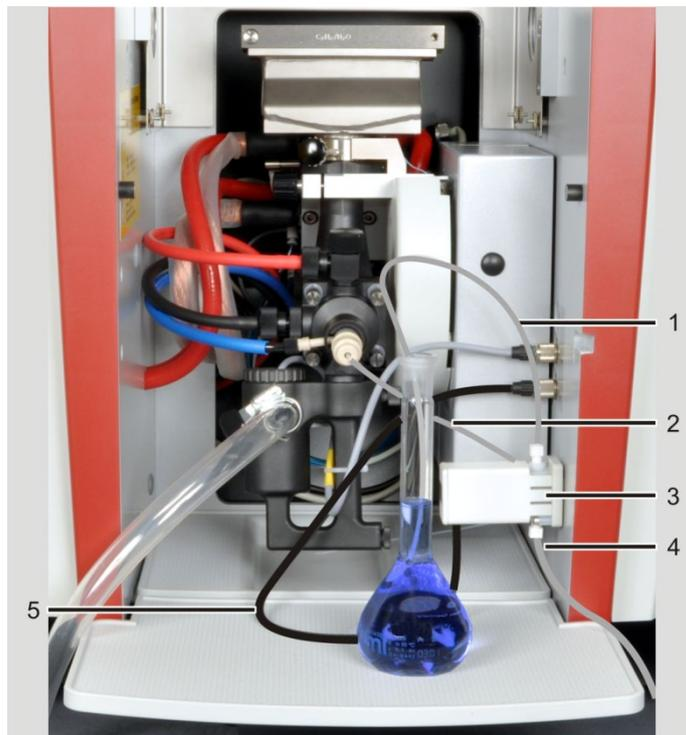

Fig. 46 Installing the SFS 6 for manual sample supply
- medium length hose in the top connection – to the sample (1 in Fig. 46)
- short hose in the side connection – to the nebulizer cannula (2)
- long hose in the bottom connection – to the wash solution (4)
3. Plug the control cable (5 in Fig. 46) into the two pin socket in the sample chamber wall.
4. Plug the short tube (2) onto the nebulizer cannula.
5. Immerse the long tube (4) into the storage bottle with wash solution.